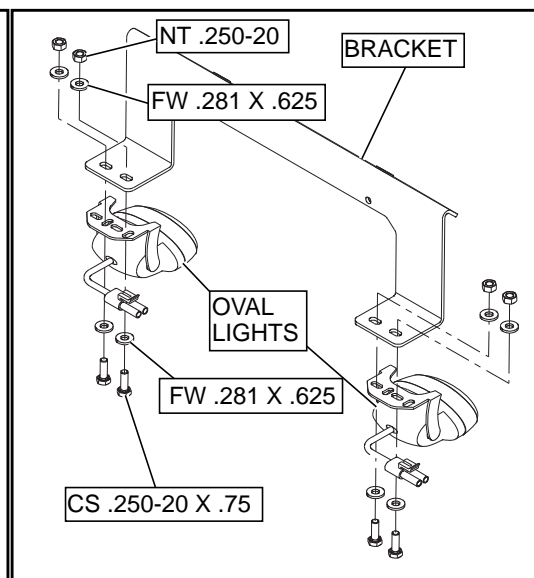

FIG. 12
14. Assemble the oval lights to the bracket using the .250" bolts, washers and nuts supplied, as shown (Fig. 12).